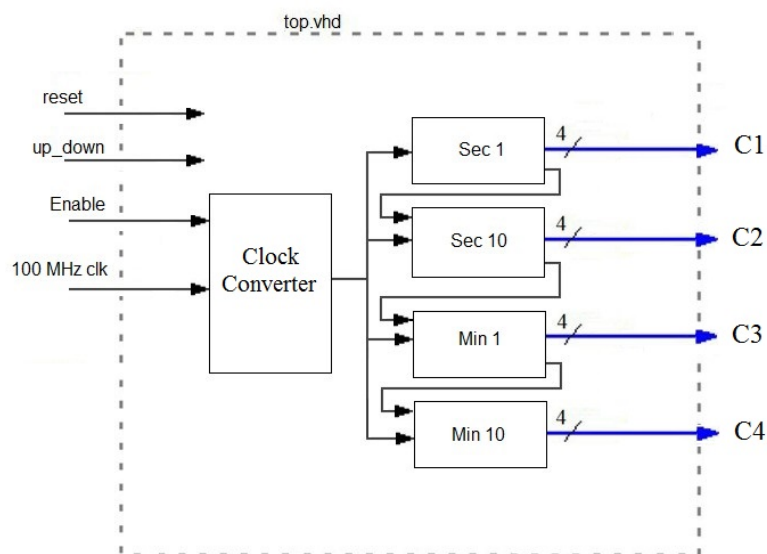

Fig. 2. Block diagram of top module
5. Build your top module and instantiate all components according to Figure 2.